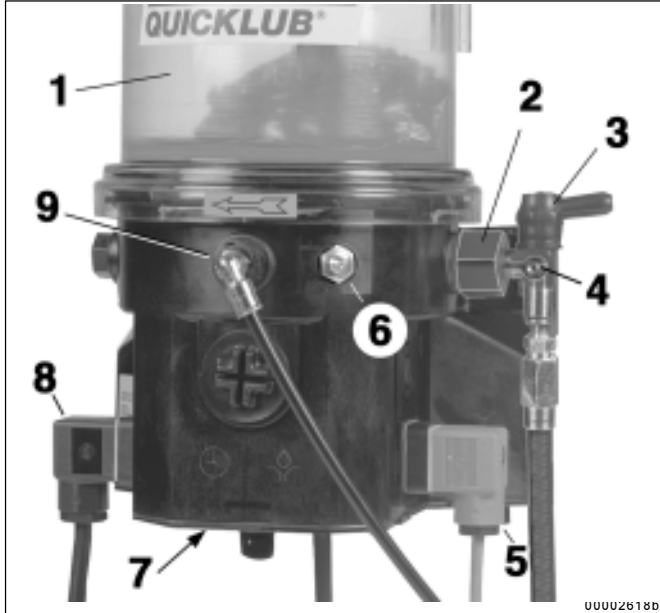

Fig. 2 - Pump components
- the potential-free contact (der potentialfreie Kontakt (square type plug 1, fig. 2) can be used (without follower plate) in order to trigger the flashing of a control lamp, also see below 'Low-level indication'